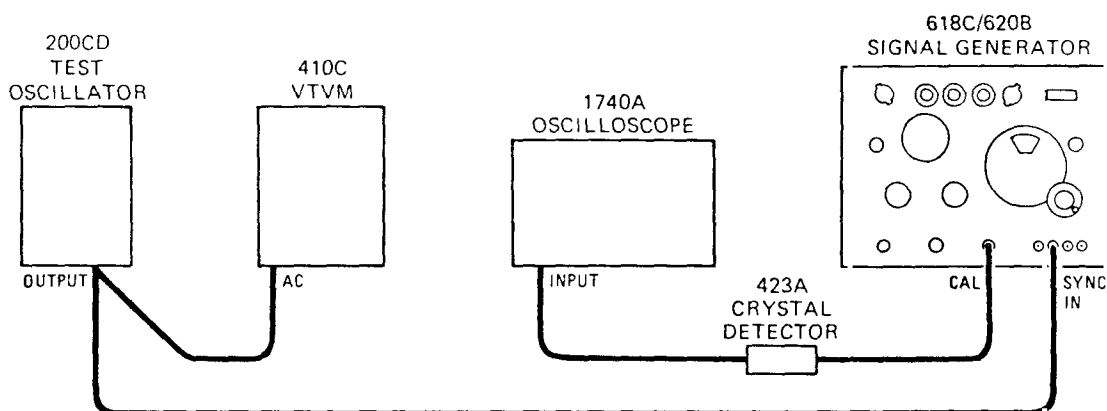

Figure 5-6. Setup for Testing External Sine-Wave Synchronization
a. Connect Signal Generator in test setup shown in Figure 5-6.
a. Connect Signal Generator in test setup shown in Figure 5-6, but replace Oscillator with Model 214B Pulse Generator.